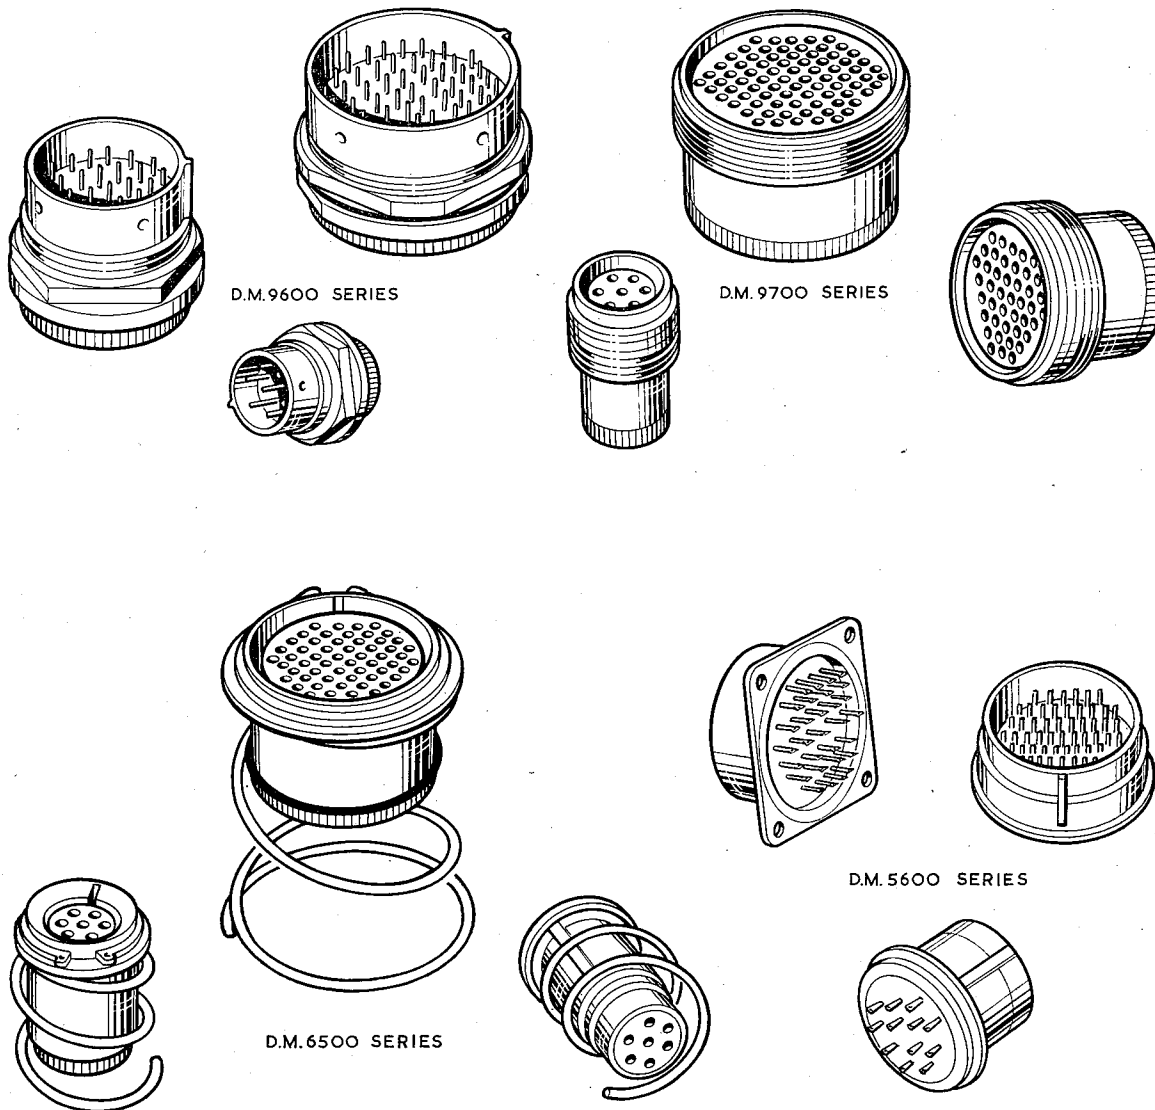
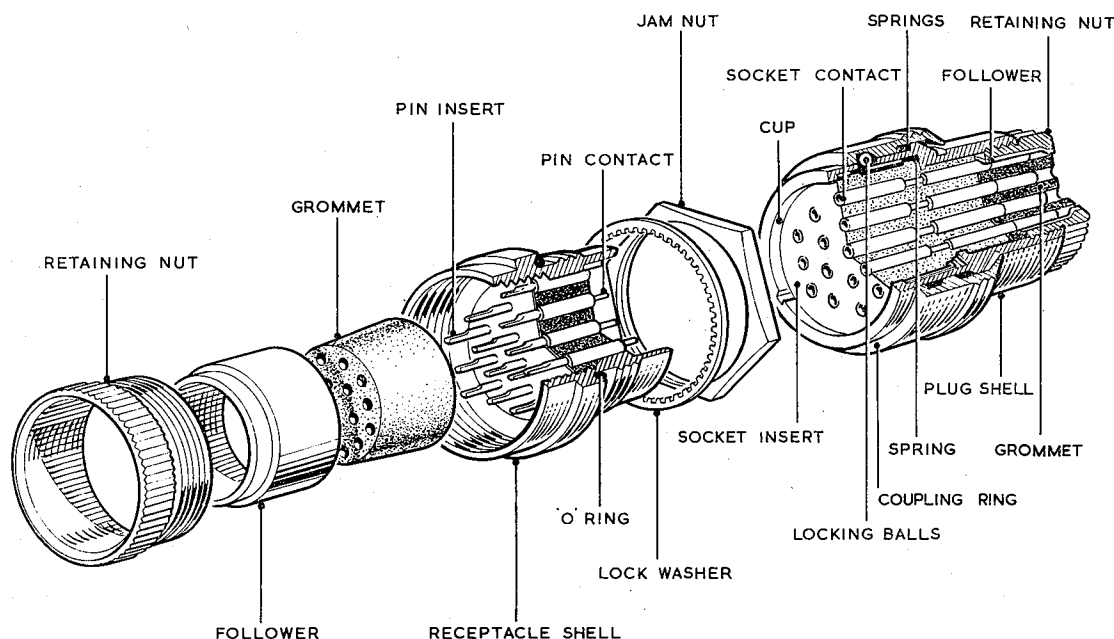

Fig. 1. Typical connectors DM series
Fig. 2. Exploded view of plug and receptacle
4. Typical connectors of each of the DM series are given in fig. 1 and an exploded view of a plug and socket mated unit is given in fig. 2. The contact size of the DM9600, 9700 and 6500 series may be varied to suit the size of individual cores of the cable, fig. 10a and 10b contact arrangements.